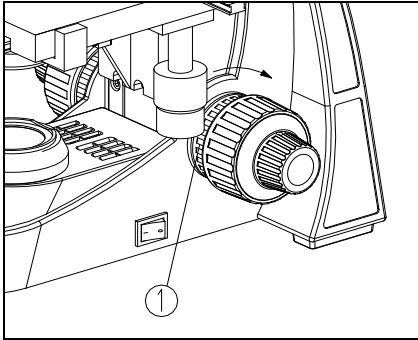

Fig.11
If the handle is very heavy when focusing or the specimen leaves the focus plane after focusing, or the stage declines itself, rotate the tension adjustment knob ① to resolve the problem (See Fig. 11).